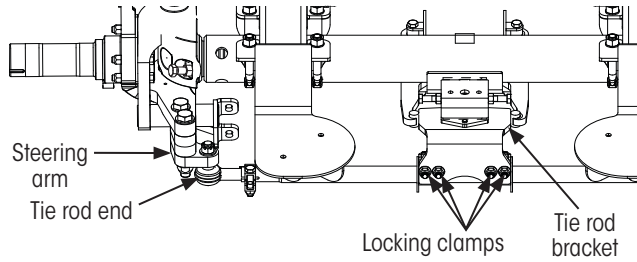
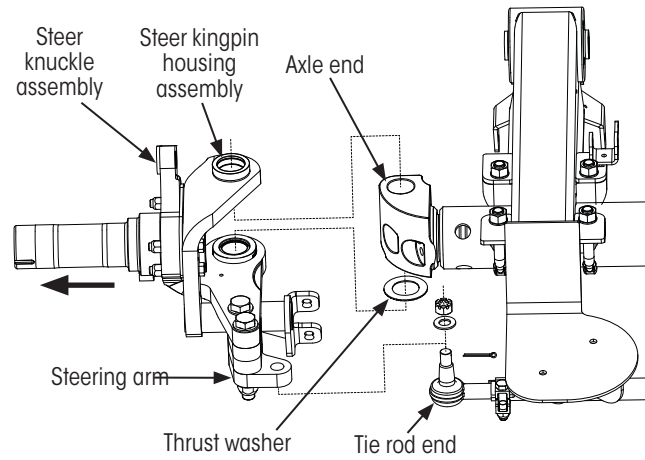

Figure 20: Aligned tie rod lock plate
Figure 23: Steer knuckle removal
2. Using wrench or socket¹, **remove** the four locking clamp bolts (Figure 20) holding the tie rod bracket to the tie rod. **Save** for reassembly.
3. **Remove** the cotter pin (Figure 20 and Figure 23) from the tie rod end castle nut.
11. **Remove** the steer knuckle (Figure 23) by sliding it off the axle end. The thrust washer will fall from the connection.
1. **Thoroughly clean** the contact surfaces for the steering arm and tie rod end (Figure 23).